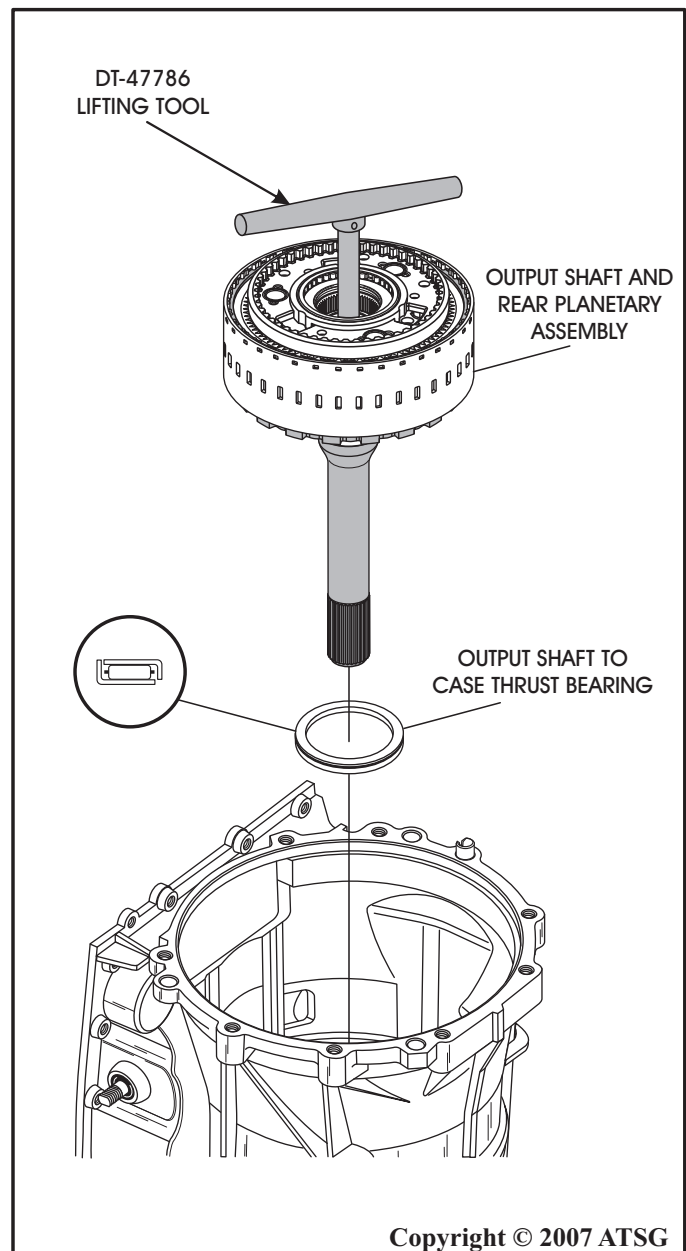

Figure 154
3. Install the output shaft to case thrust bearing into case, in the direction shown in Figure 154.
4. Ensure the DT-47786 lifting tool is completely threaded into the output shaft assembly, as shown in Figure 154. Due to the weight of the assembly, incomplete threading may let the assembly break free, causing damage/injury.
5. Install the pre-assembled output shaft assembly into the case, as shown in Figure 154, using the DT-47786 lifting tool.